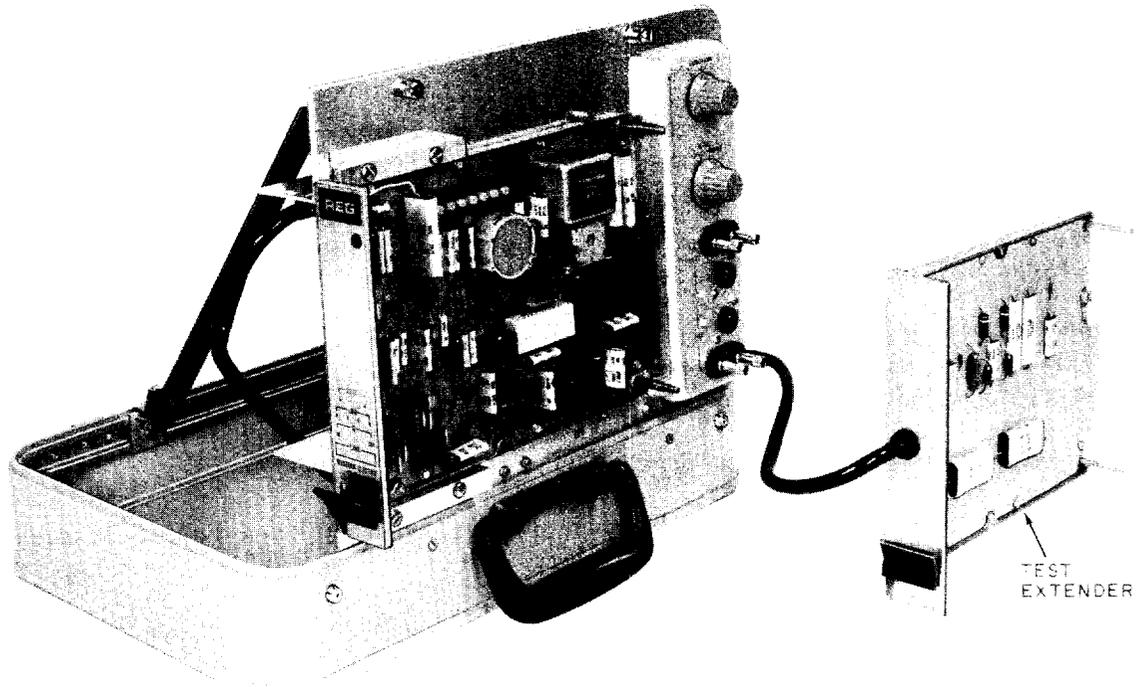

Fig. 4—REG Test Fixture—J98625TA
3.01 The test fixtures (Fig. 4 and 5) have a cable connected to an extender board that plugs into the REG shelf in place of the REG unit to be tested. The REG is then plugged into the test fixture for evaluation. The test fixtures each have a terminal marked HDST in parallel with a 238 jack for attaching a 1013A handset, or equivalent; a 238 jack in multiple with a banana plug marked TMS for making transmission tests; and two switches designated MODE and FUNCTION. The MODE switch has two positions: one marked SIG for checking the signaling functions of the REG and the other marked TRANS for checking VF gain and return loss. The FUNCTION switch has three positions marked 1, 2, and 3 which select the test to be performed. The REG may be restored to service while plugged into the test fixture by operating the MODE switch to SIG and the FUNCTION switch to 3.